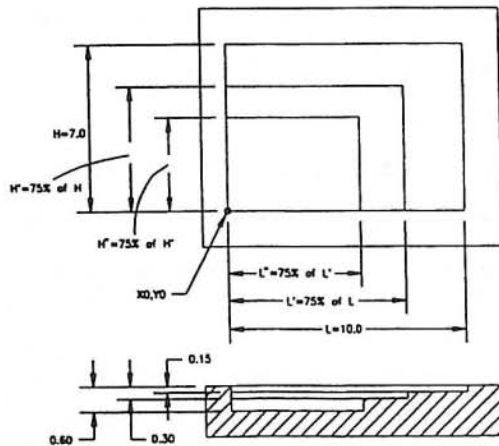

Figure 9.14
28. The scale function is used to scale the toolpaths for pocketing a rectangle for cutting two smaller rectangular pockets as shown in Figure 9.14. Some tips are listed after the figure.